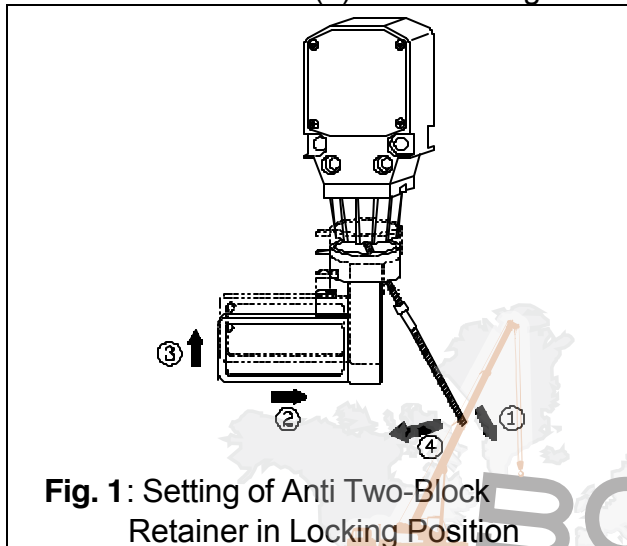

Fig. 1: Setting of Anti Two-Block Retainer in Locking Position
Locking Procedure (see Fig. 1 and 2): Pull the cable out of the switch and bend back parallel to the boom and hold (1). Slide the retainer from left side with its slot over the cable between the crimped stop and the switch (2). Push it firmly straight onto the cable guide of the Anti Two-Block switch (3). Straighten the cable completely into the slot and release the cable (4). Turn the flag of the retainer for best visibility for the operator (5).